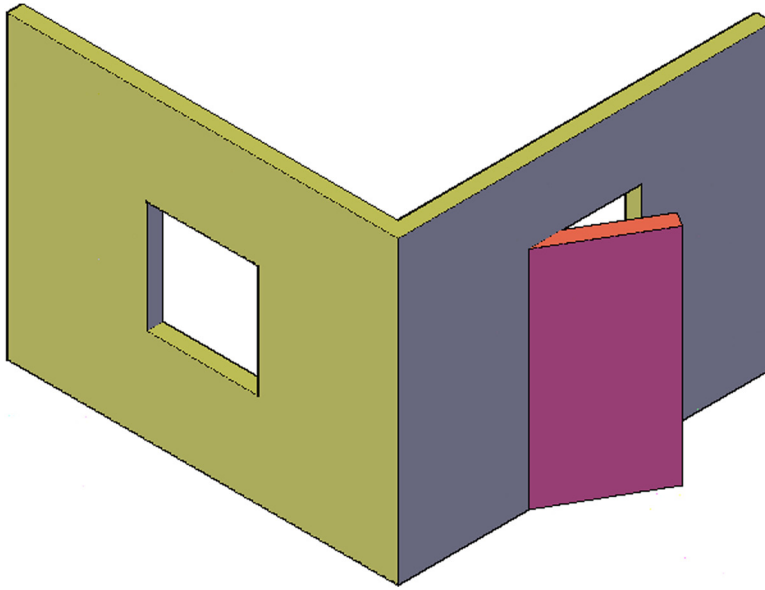

FIGURE 23.17
Step 7. Finally, let us put the copy of the door back where it belongs and give it a -30° rotation (yes, negative again). The final result is in Figure 23.17.